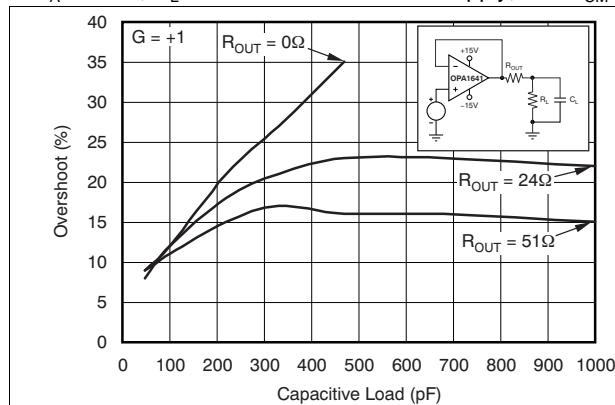
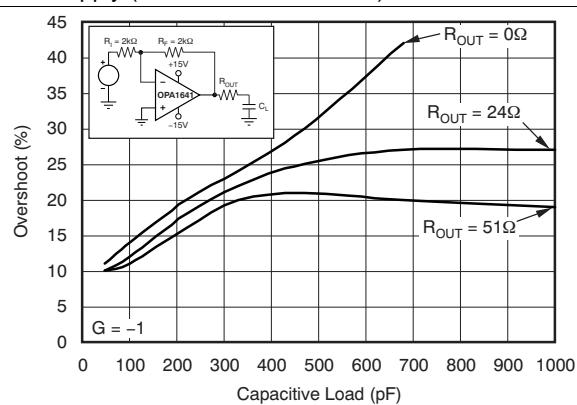

Figure 19. Small-Signal Overshoot vs Capacitive Load
Figure 20. Small-Signal Overshoot vs Capacitive Load
(1) Full power bandwidth = SR /  $(2\pi \times V_P)$ , where SR = slew rate.
(2) See Figure 19 and Figure 20.